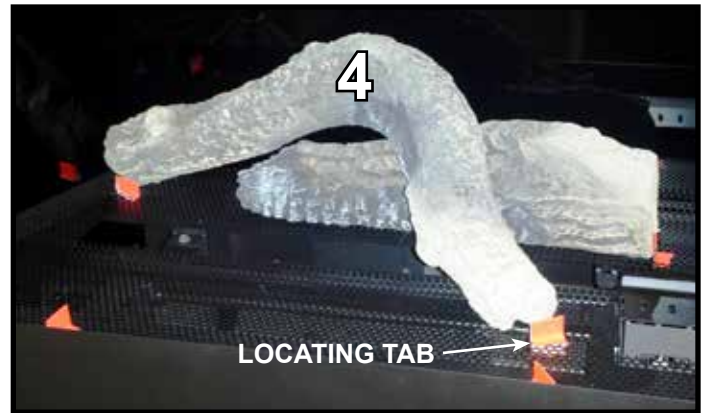

Figure 9. Log #4 (2081-172)
12. Install front log #4. Right end of log should touch locating tab and the left side of log should rest upon log #3 and touch the locating tabs on the left. See Figure 9.